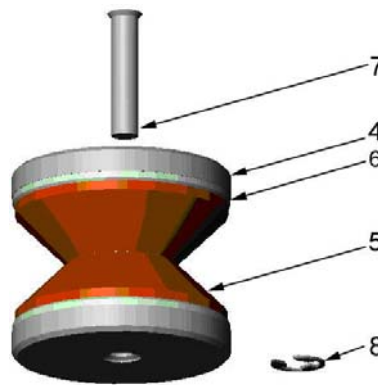

Figure 7
2.6 Position explosive assemblies together with the Liners facing inward along a single axis and insert the Booster Cartridge (item #8) through the hole in the Backup until the flared end seats in the hole, see Figure 7.